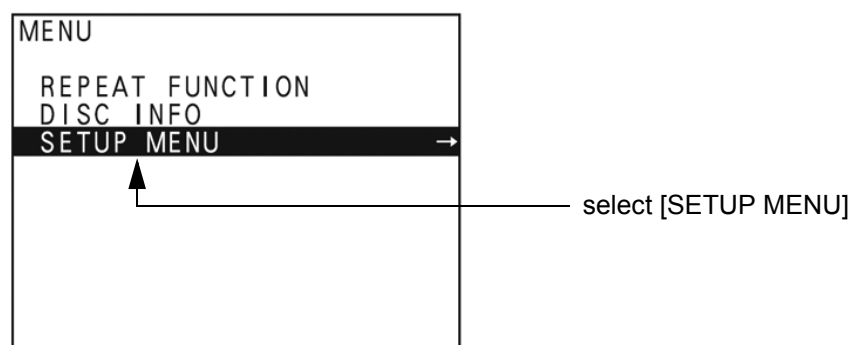

Figure 3-27 "Main Menu" - [SETUP MENU] highlighted
- 3.) The "Main Menu" appears on the LCD screen of the DVD recorder, see: Figure 3-27 below.